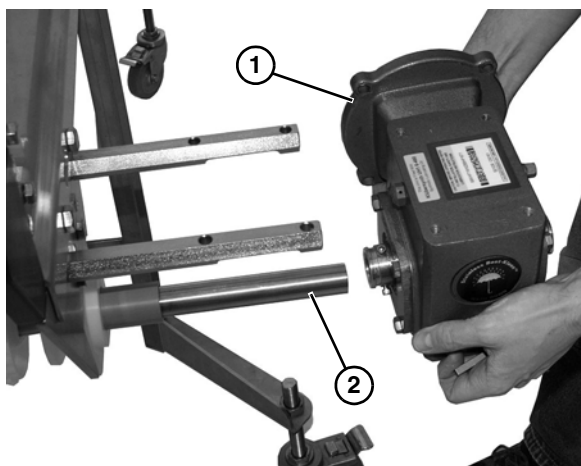

Figure 16
6. Slide the gearmotor assembly (**Figure 16, item 1**) off the drive spindle (**Figure 16, item 2**).